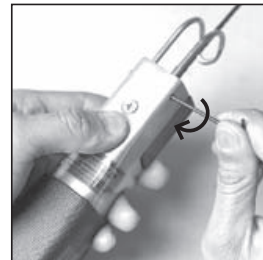

Figure 12
3. Tighten the two set screws and make sure that the blade guard is set correctly and securely. (See Figure 12)